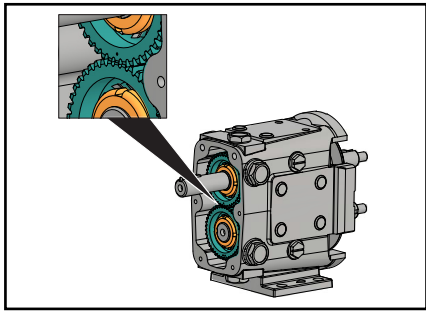

Figure 62 - Timing Gear Marks
3. Slide the short shaft gear onto the short shaft. The short shaft gear has two punch marks on the gear. Straddle the single punch mark of the spur drive gear with the two punch marks on the short shaft gear (Figure 62).